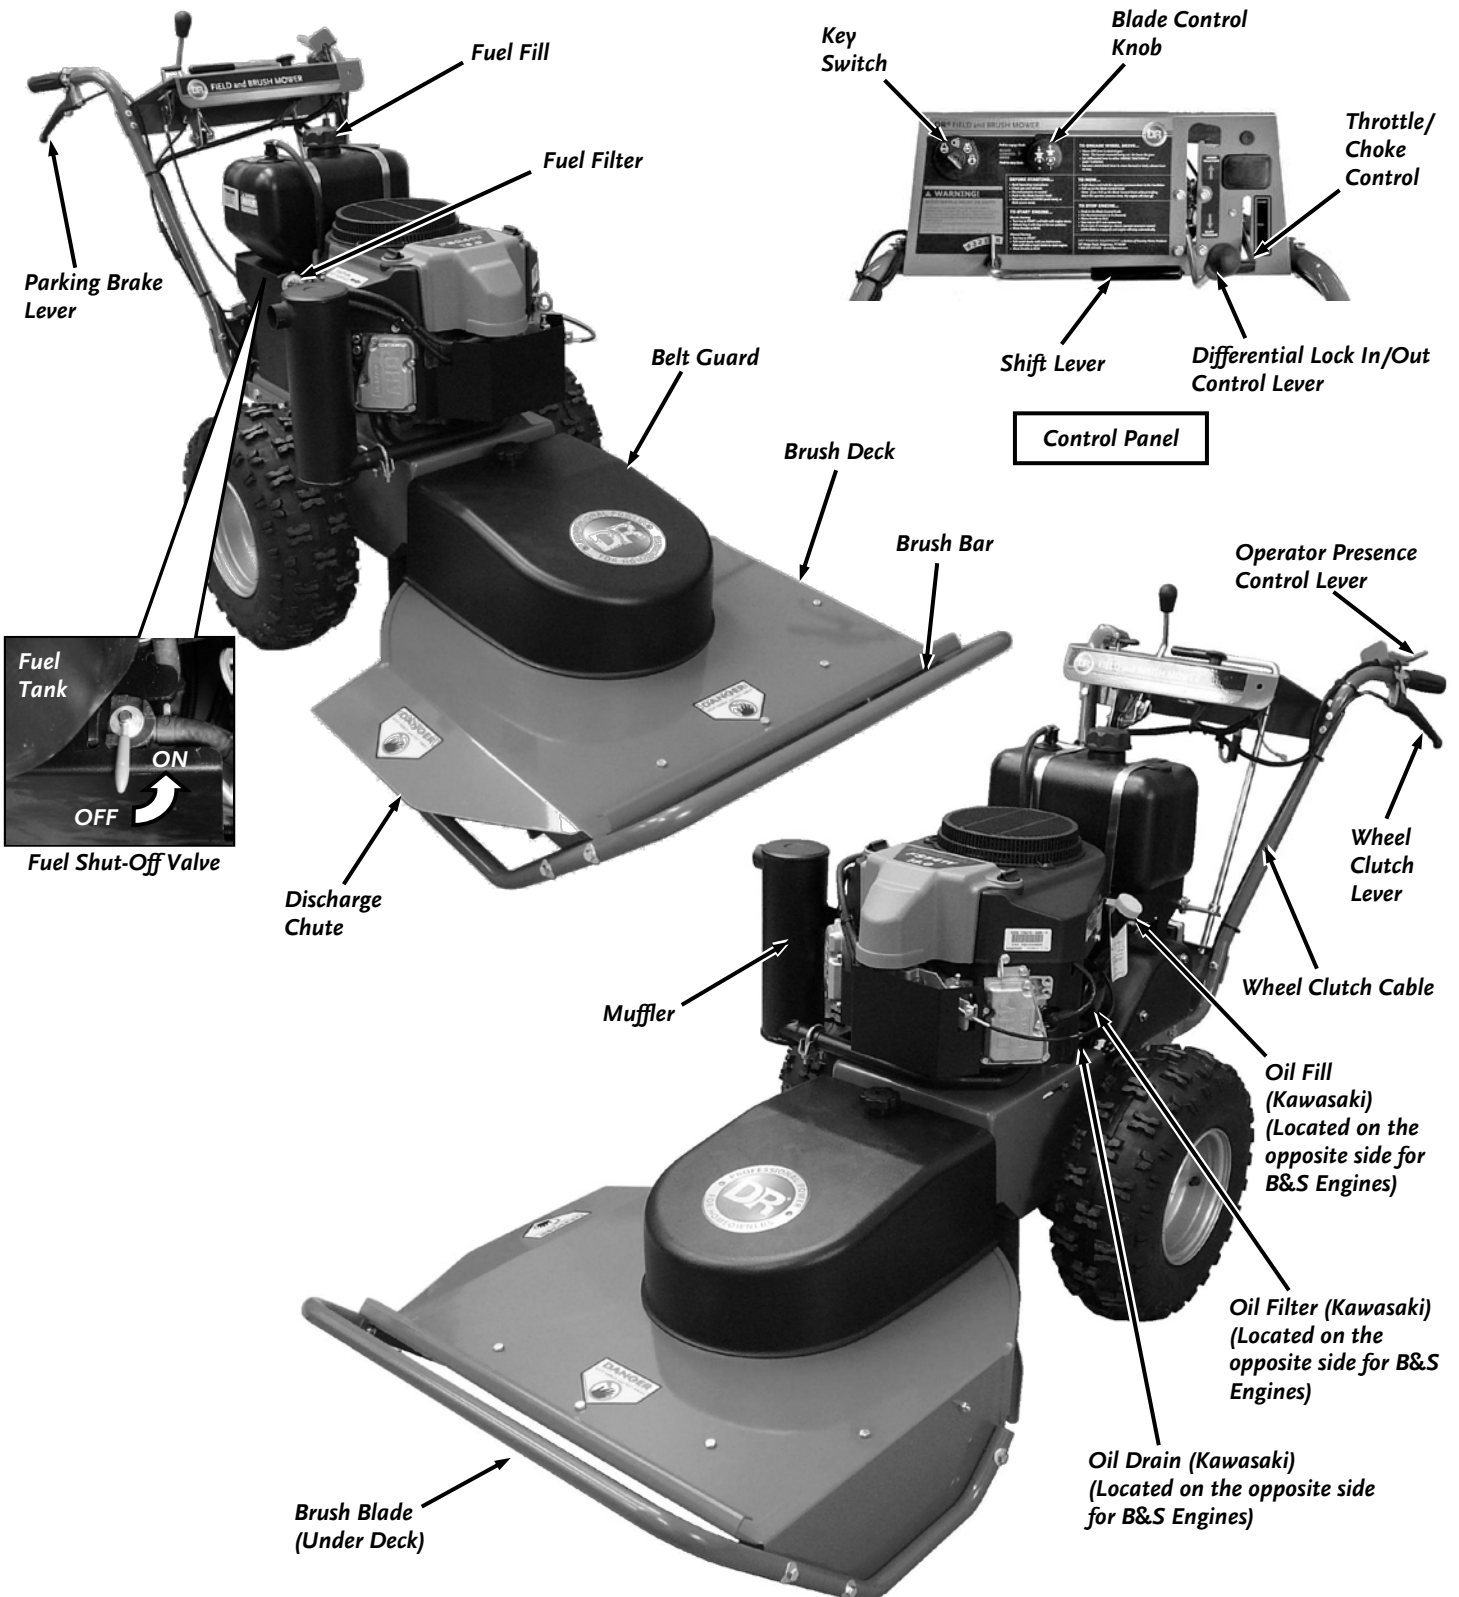

Figure 1
It may be helpful to familiarize yourself with the controls and features of your DR FIELD and BRUSH MOWER as shown in Figure 1 before beginning these procedures. If you have any questions at all, please feel free to contact us at [www.DRpower.com](http://www.DRpower.com).
1. Place the machine on a level surface and initially add 1/2 of the SAE 30 high detergent oil recommended by the Engine manufacturer into the Oil Fill (**Figure 1** on page 7) and wait one minute for the oil to settle.
4. Open the Fuel Shut-Off Valve which is located on the Fuel Tank Mount (**Figure 1 on page 7**).
This chapter covers the procedures for starting and stopping your new DR FIELD and BRUSH MOWER and discusses basic operation features. You may find it helpful to review the DR FIELD and BRUSH MOWER Controls and Features in **Figure 1** on page 7 before reading this chapter.